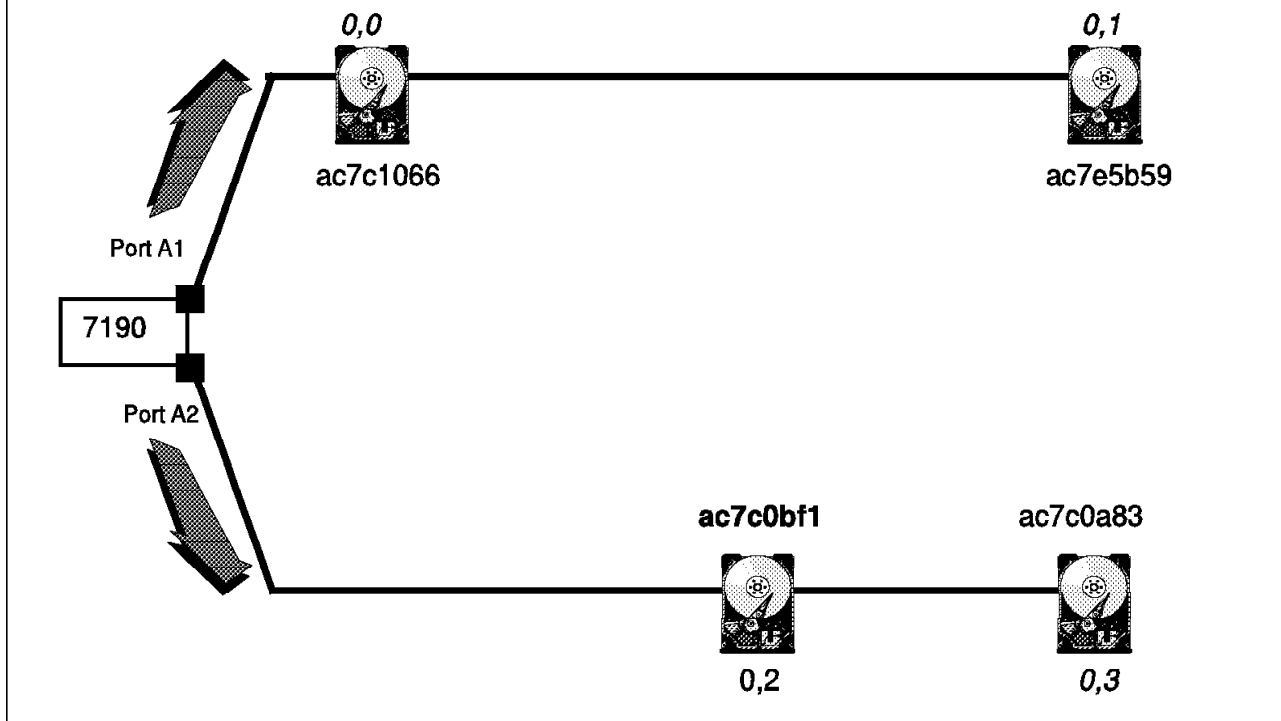

Figure 111. Replaced Drive Between Nodes on a 7190 Model 100 String
Compare the output to Figure 111.
3. Type in the required information. In our example we have chosen to set t0d2 (This is SCSI ID 2 in Figure 111 on page 142):